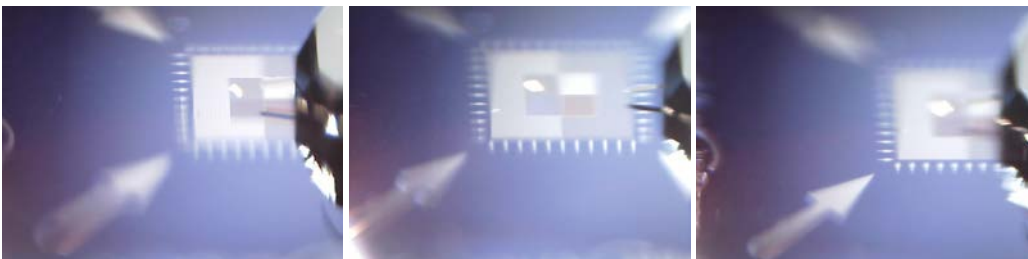

Fig. 8 Side view image of cantilever close to the sample surface. The focus is too far behind (left), good (middle) and too far in front (right).
- 5> Compare the camera image to the pictures in figure 8 to determine if the focus is too high or too low. The arrow markings on the calibration sample help to judge the focus position
- 3> Use the special octagon socket tool supplied with the compact AFM camera to adjust focus position of the lens by turning the right lens/screw with the other hand (Fig. 8, encircled)